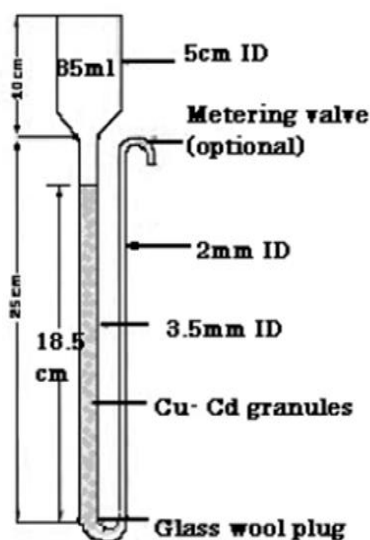

Fig. 8 Cadmium column apparatus
- Nitrate in water is reduced almost quantitatively to nitrite when the sample is passed through a column containing cadmium filings coated with metallic copper (Fig. 8).